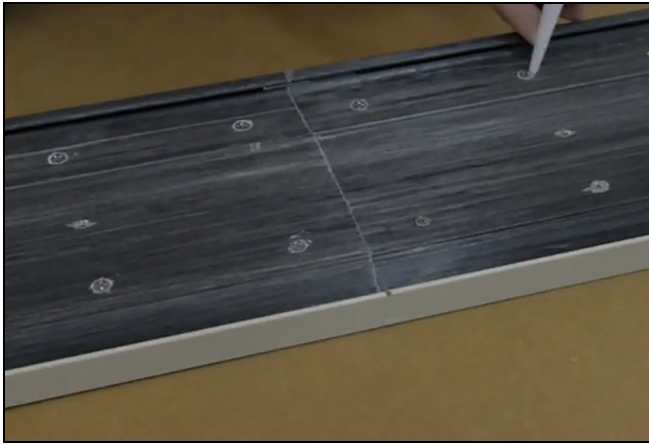

Figure 18
6. Apply sealant over all the screws and remove excess sealant from the sill. See Figure 18.